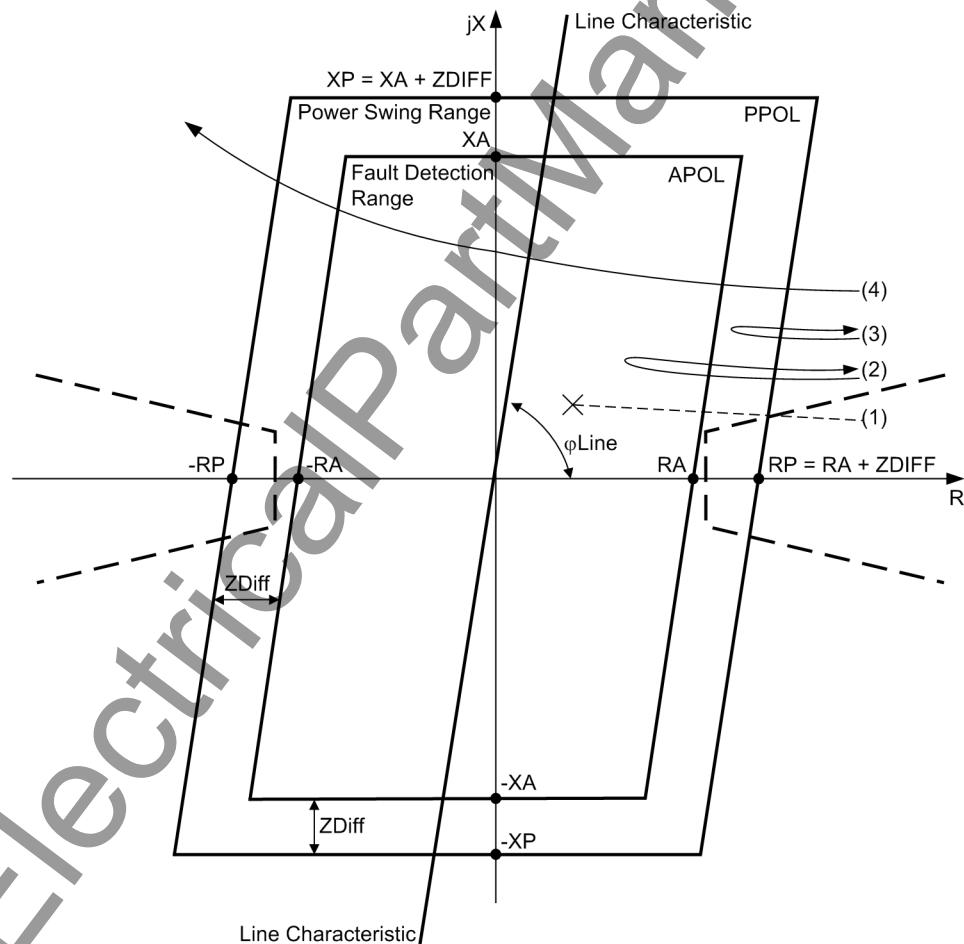

Figure 2-42 Pickup characteristic of the power swing detection for a polygon.
To detect a power swing, the rate of change of the impedance vectors is measured. The message is triggered when the impedance vector enters the power swing measuring range PPOL (refer to Figure 2-42) and the other criteria of power swing detection are met. The fault detection range APOL is made up of the largest set values for R and X (polygon characteristic) or of the largest set value for ZR (MHO characteristic) of all the activated zones. The power swing zone has a minimum distance Z_{Diff} of $5\ \Omega$ (at $I_N = 1\text{ A}$) or $1\ \Omega$ (at $I_N = 5\text{ A}$) in all directions from the fault detection zone. In the event of a short-circuit (1), the impedance vector abruptly changes from the load condition into this fault detection range. However, in the event of a power swing, the apparent impedance vector initially enters the power swing range PPOL and only later enters the fault detection range APOL (2). It is also possible that a power swing vector will enter the area of the power swing range and leave it again without coming into contact with the fault detection range (3). If the vector enters the power swing polygon and passes through it leaving on the opposite side, then the sections of the network seen from the relay location have lost synchronism (4): The power transfer is unstable.
When the impedance vectors identified by the power swing detection exit the power swing characteristic PPOL, the sign of the R components in the vectors are checked to see if they are the same on exiting and entering the pickup polygon. If this is the case, the power swing process is inclined to stabilize. Otherwise, the vector passed through the power swing characteristic (loss of synchronism, case (4) in Figure 2-42). Stable power transmission is then no longer possible. The device outputs an alarm to that effect (No. 4163 „P.Swing unstab.“), provided that the parameter in address 2006 **PowerSwing trip** is set to **NO**. The alarm No. 4163 „P.Swing unstab.“ is a pulse with a duration of approx. 50 ms, which can also be processed further via output relay, e.g. for a cycle counter or a pulse counter.